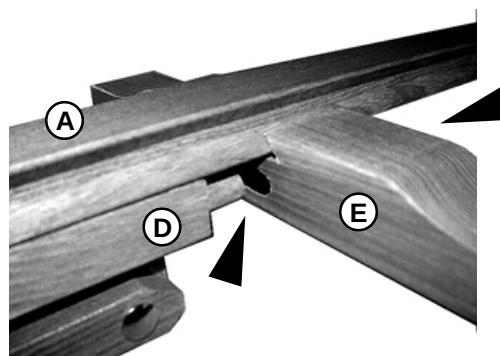

FIG 11
STEP 11. Continue sliding Upper Cross Member [E] downward along channel until you reach the top end of the Ratchet Column [D]. Insert notched end into oval hole in Upper Cross Member [E]. See FIG. 11.